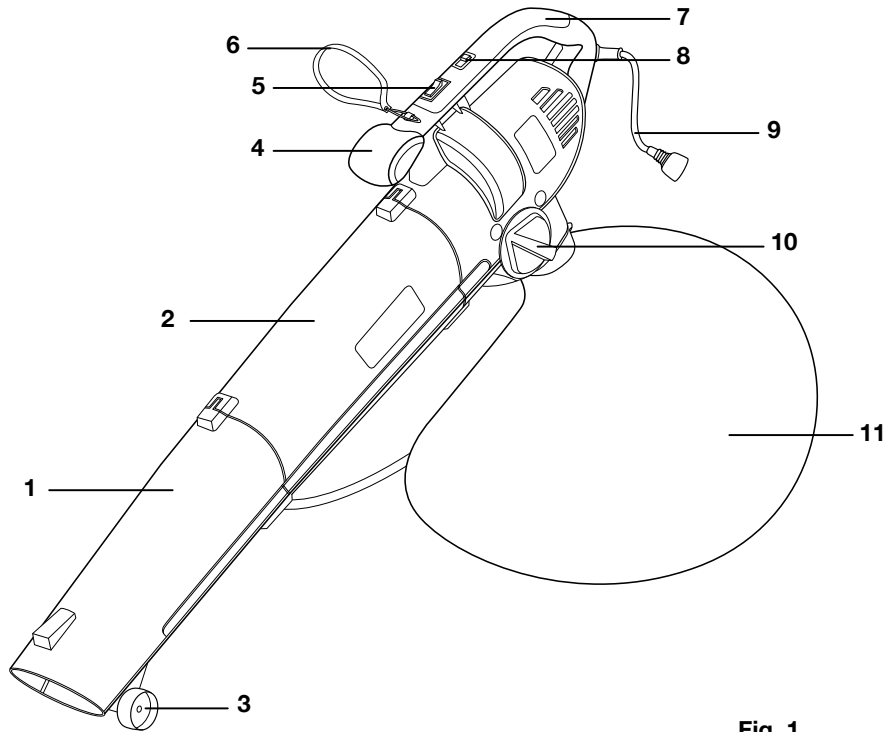

Fig. 1
- Check whether the packaging contains all parts as illustrated in drawing in (Fig. 1), on page 4.